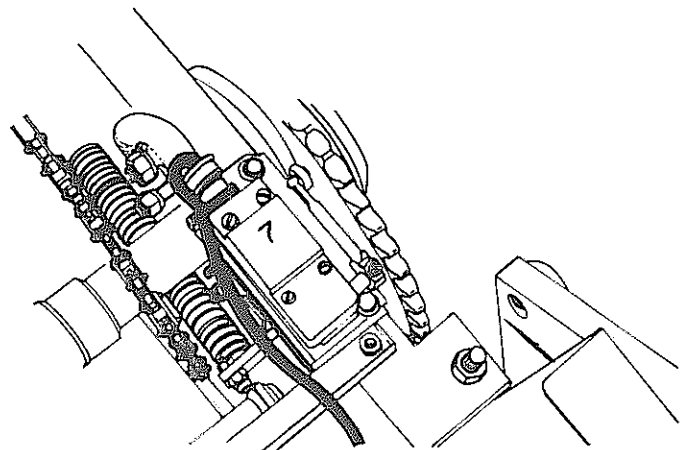

Fig. 46
1. To increase the duration of the non-reversing portion of the knotter cycle, lower the switch roller arm. To decrease this duration, raise the switch roller arm, see **Fig. 46**.